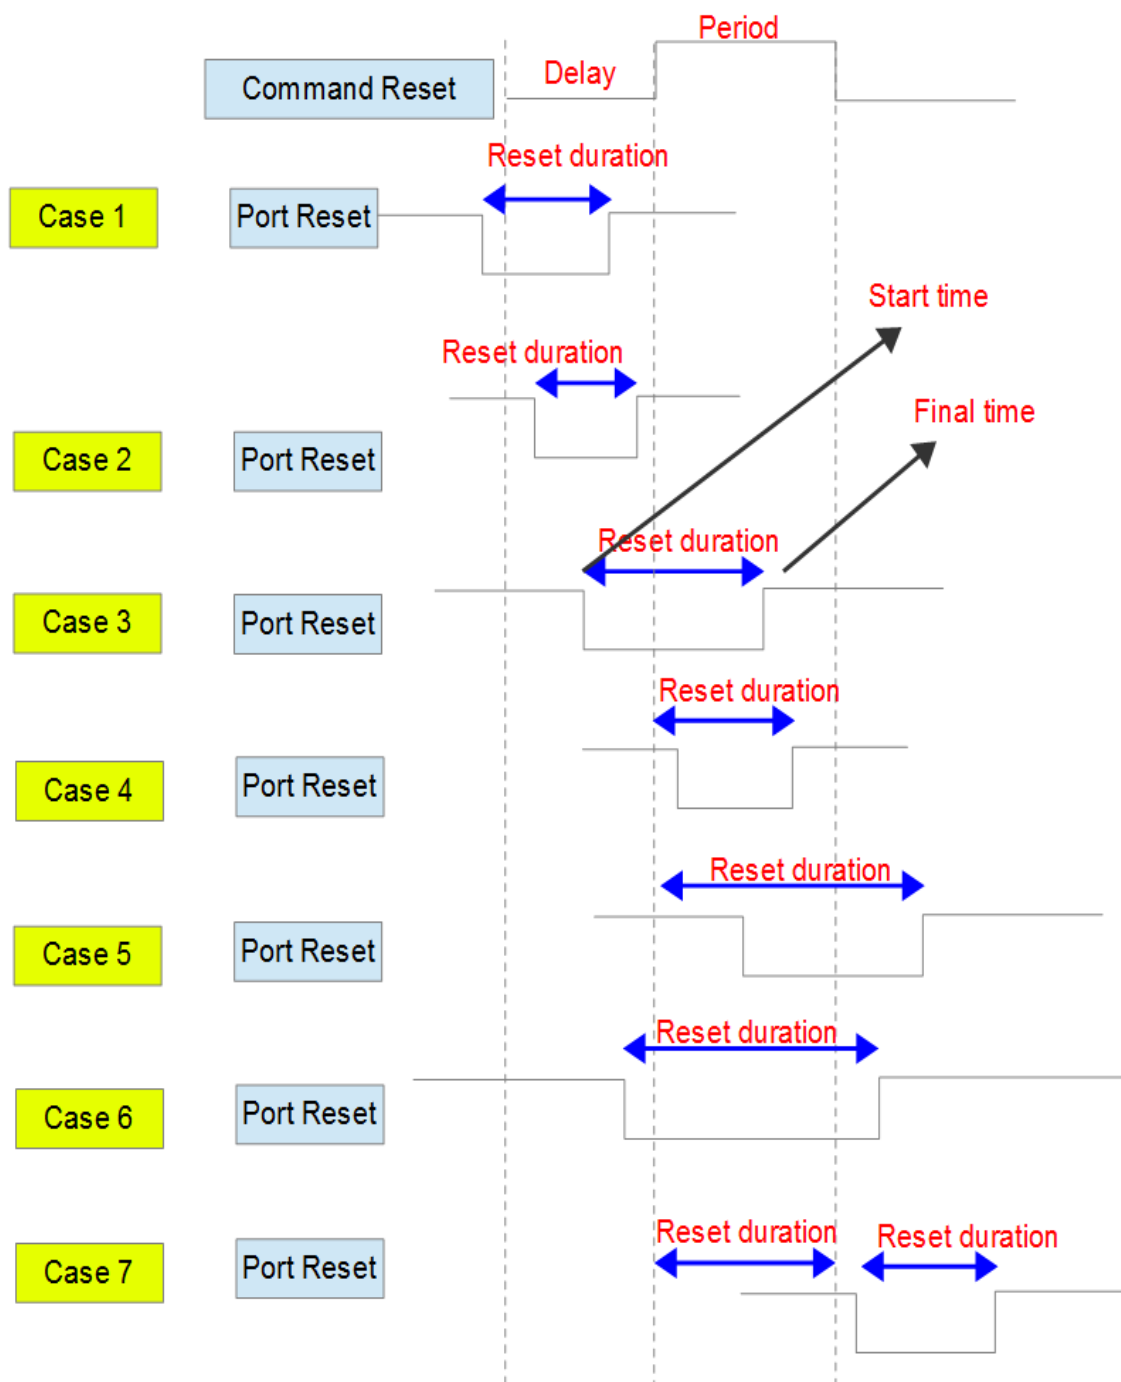

Figure 6.8: SARAD113x Reset behavior
- (1) According to the Figure 6.8, there are seven cases for port reset (preset\_n) and AssertReset command function. In every case, the “reset duration” for SARAD113x model is showed.
- (2) At the “Start time” of “Reset duration” , all features of SARAD113x model is reset and remained during the “Reset duration” .
- (3) At the “Final time” of “Reset duration” , the registers of SARAD113x model can be set up again.